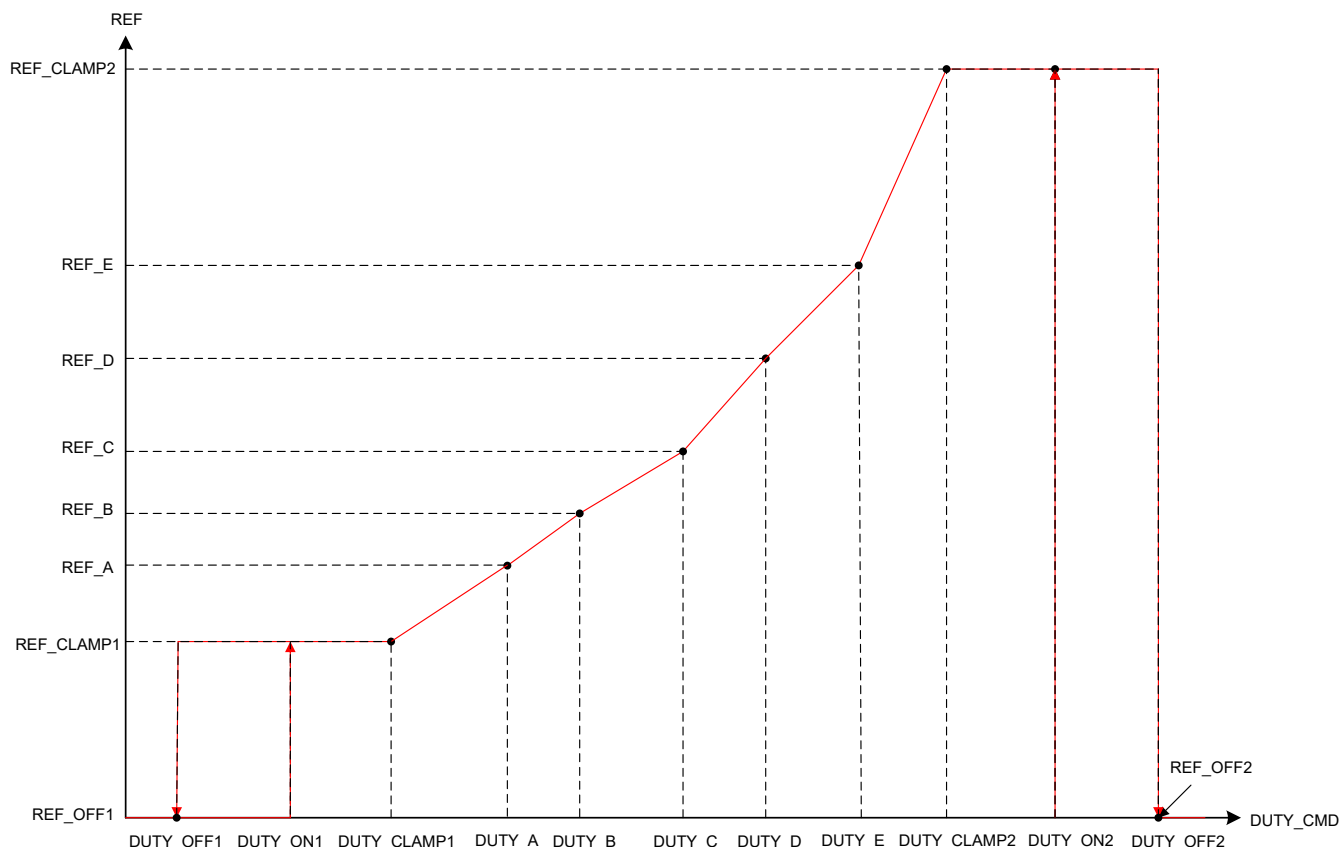

Figure 6-20. Linear Control Profiles
- DUTY_OFF1 and DUTY_ON1 configures a hysteresis around reference control input REF_CLAMP1 and REF_OFF1 as shown in Figure 6-20.
- DUTY_A configures the duty command for reference REF_A. The reference changes from REF_CLAMP1 to REF_A linearly between DUTY_CLAMP1 and DUTY_A. DUTY_A to DUTY_E has to be in the same order as shown in Figure 6-20.
- DUTY_OFF2 and DUTY_ON2 configures a hysteresis around reference control input REF_CLAMP2 and REF_OFF2 as shown in Figure 6-20.